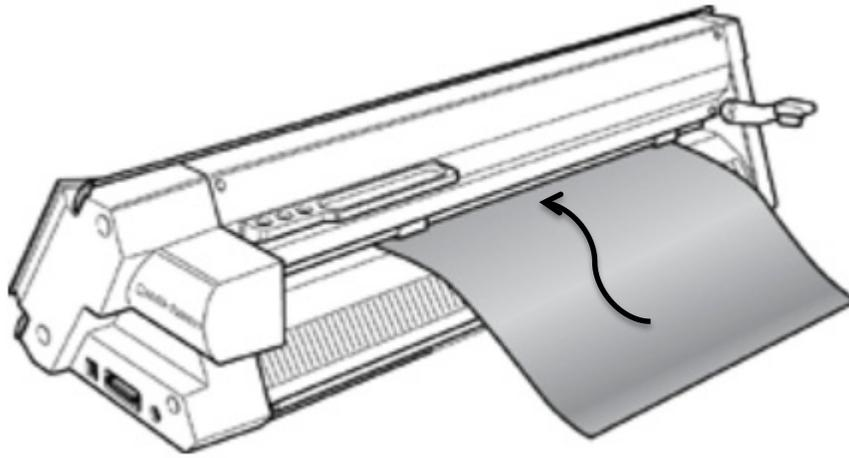

Figure 9: Using sheets in the Vinyl Cutter
12. If you are not using the **ROLLER BASE**, cut off a sheet of material and insert into the machine from the back-side. (Figure 9).